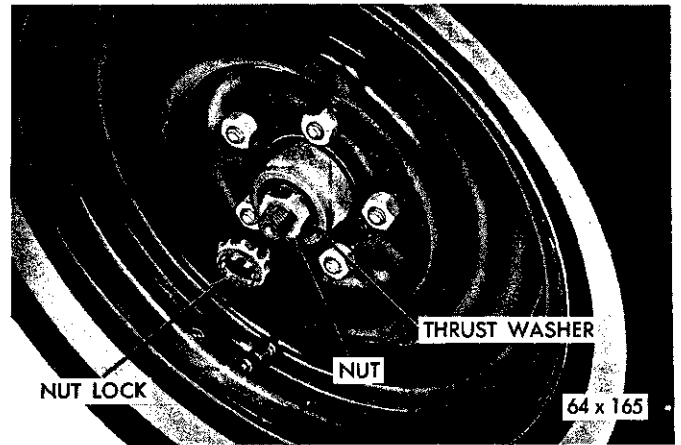

Fig. 8—Adjusting Front Wheel Bearings
(2) Position the nut lock on the adjusting nut so one pair of cotter pin slots aligns with the pin hole in the spindle (Fig. 8).
(3) Back off the adjusting and nut lock assembly one slot and install the cotter pin. **The resulting adjustment should be zero (no preload) to .003" end play.**
(4) Clean the grease cap, coat the inside with wheel bearing lubricant (do not fill) and install the cap.
(5) Install the wheel covers and lower the vehicle to the floor.